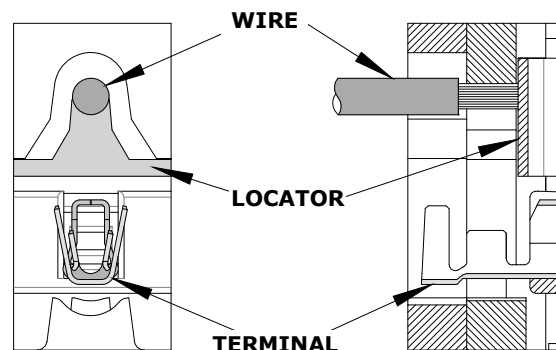

Figure 7
10. On some large O.D. wires, it may not be possible to insert the wire with the tool partially closed. Those wires should be inserted with the hand tool in the open position. Insert the wire above the terminal in the punch and against the locator, and then close the tool. See Figure 7.